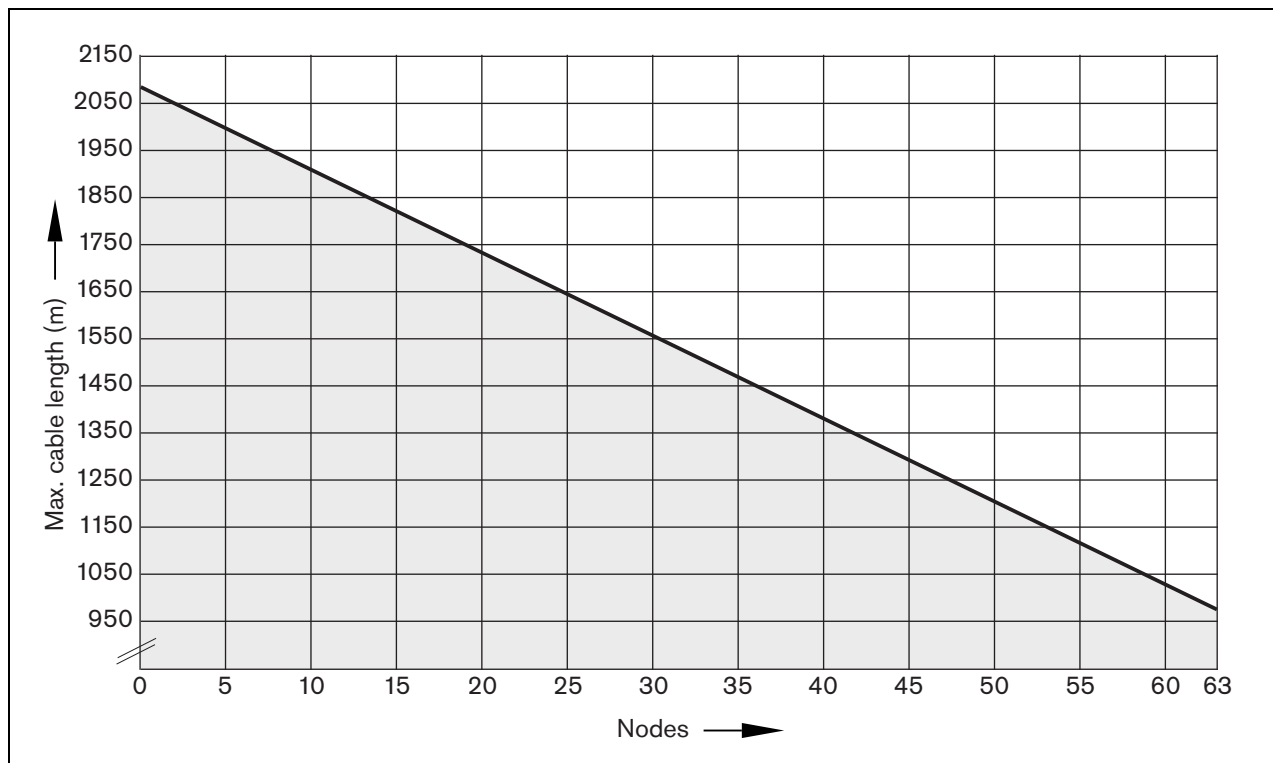

figure 2.2: Cable correction graph
- 2 With the value of step 1, use the graph (refer to figure 2.2) to find the maximum cable length without LBB4414/10 Fiber Interfaces.